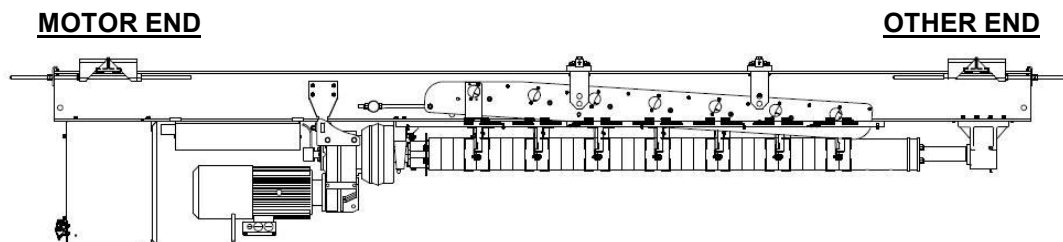

Figure 1: Beam Clamp Mounting Positions
2. Identify on which end of the machine the clamp is to be installed. Clamp assemblies are labeled with their part numbers. Refer to the data block on the installation drawing to determine which clamp goes on which end of the PowerLift. (See Figure 1)